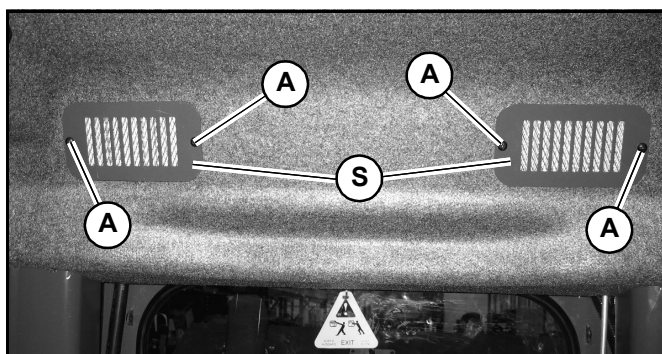

Fig. 131 – Cab Air Filters
2. Remove fasteners (A, Fig. 131) securing filter grilles (S) to the cab wall. Remove and discard the old filter elements.
3. Insert new filter elements and secure with grilles (S) and fasteners (A). Make sure the filter elements are completely seated in the openings and the grilles are firmly seated flush to the cab wall.